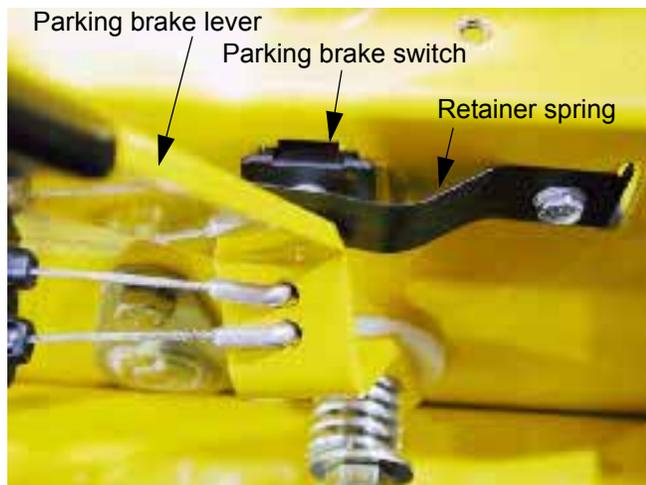

Figure 10.2
10.2. The Parking Brake Switch is located on the right side of the control housing. It is accessible by removing the right side control console. The switch is actuated by a retainer spring that moves with the parking brake lever. See Figure 10.2.